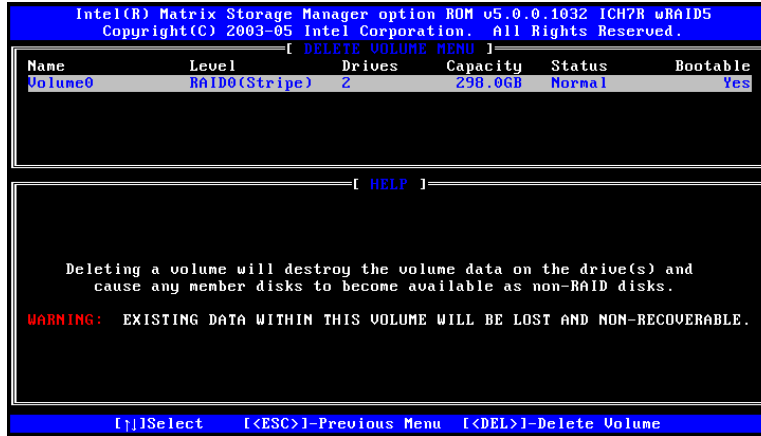

Figure D-9: Select RAID Volume to be Deleted
**Step 2: Select RAID Volume to be Deleted.** Use the arrow keys to highlight the RAID volume to be deleted and press **ENTER**. See Figure D-9.